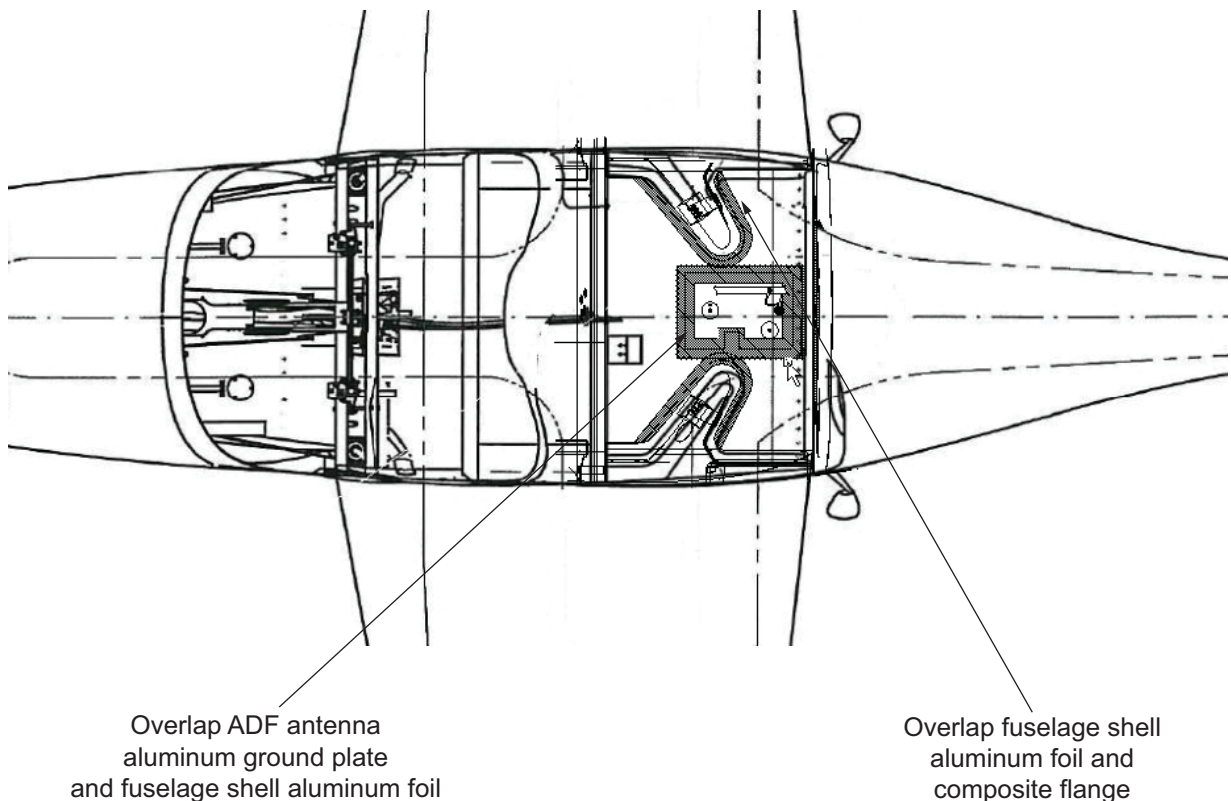

Figure 4
- 10.2.4 Install 2" copper tape (P/N 1181-2) to ADF antenna area as shown in Figure 4.